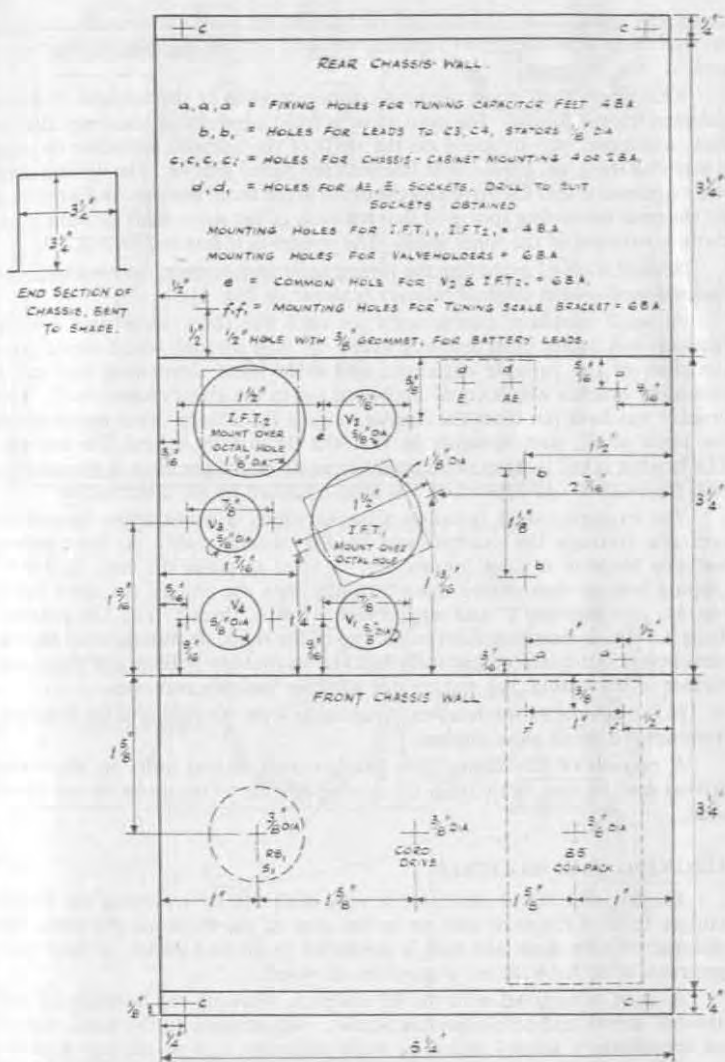

Fig. 8. Chassis Details for the Home Midget Battery Receiver
- Chassis, cut and bend from sheet aluminium, $5\frac{1}{2}" \times 3\frac{1}{2}" \times 3\frac{1}{2}"$ high. See Fig. 8.
Cut the chassis from sheet aluminium and, before bending down the $3\frac{1}{2}"$ walls, drill as shown in Fig. 8. The high walls to the chassis permit the B5 coilpack to be mounted below the tuning capacitor in the vertical position so that little chassis space is taken up by the coilpack. The pack is mounted so that the adjusting screws of the trimmers and coil cores are to the right, and thus readily accessible at the right-hand end of the chassis.